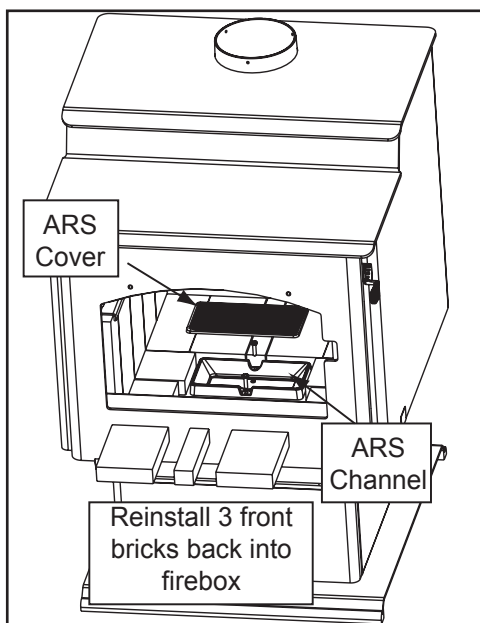

Figure 20.2
1. Replace front 3 bricks that were removed in step 1 (**Figure 20.2**).
3. Install ARS access cover inside of ARS Channel that is located inside the firebox (**Figure 20.2**).